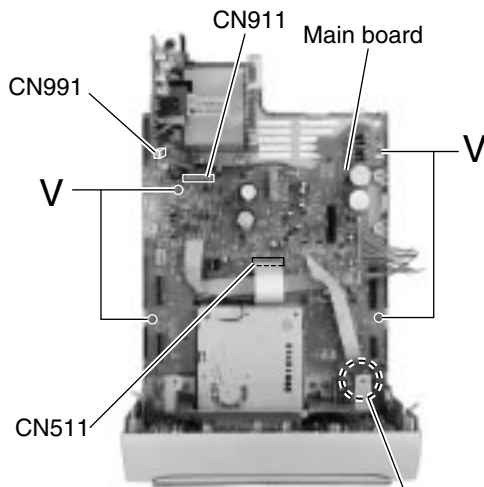

Fig.22
**■ Removing the Main board (See Fig.22)**